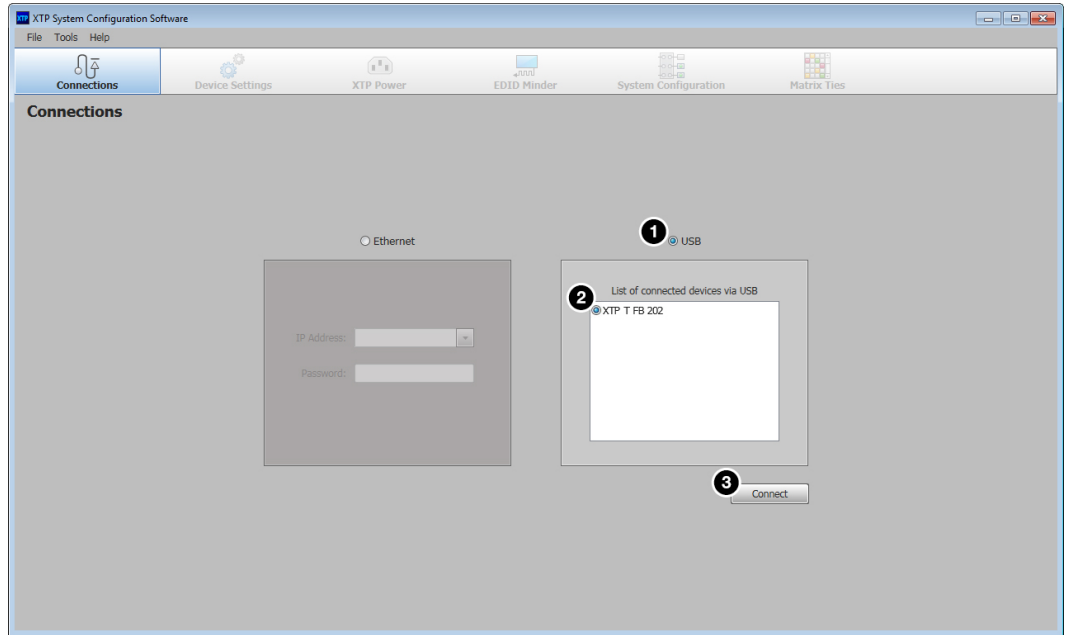

Figure 25. Connections Screen
2. From the **Connections** screen in the XTP Configuration Software, select the connection method radio button (see figure 25, **1**).